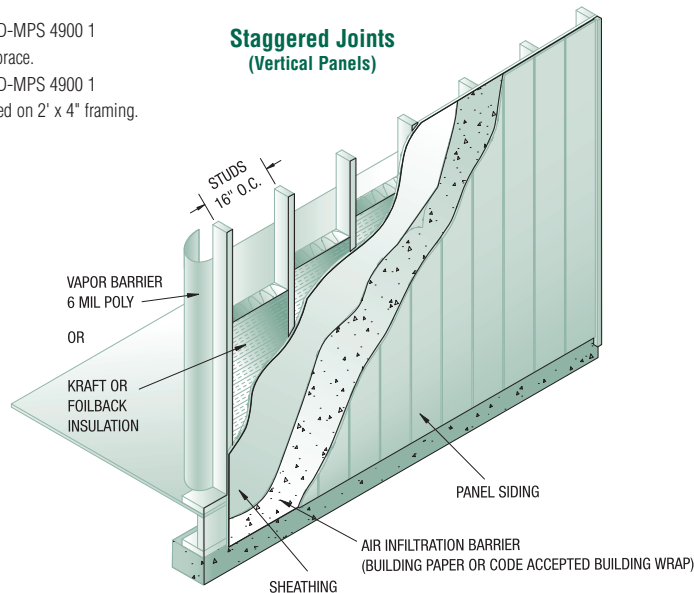

FIG. 5
- A continuous vapor barrier rated 1 perm or less is required across the interior side of all walls to be sided. Examples include 6 mil polyethylene and kraft-backed or foil-backed insulation stapled tightly to the face or sides of the studs. See Fig 5.